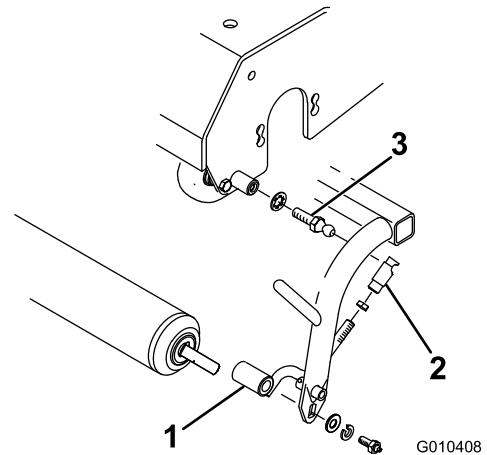

Figure 7
4. When mounting the Tri-Roller Kit to the **Greensmaster 3050, 3100 or 3150** traction unit, use the small diameter ball stud and washer on each end of the tri-roller (Figure 7). Adjust the links so that they are forward as far as they will go.